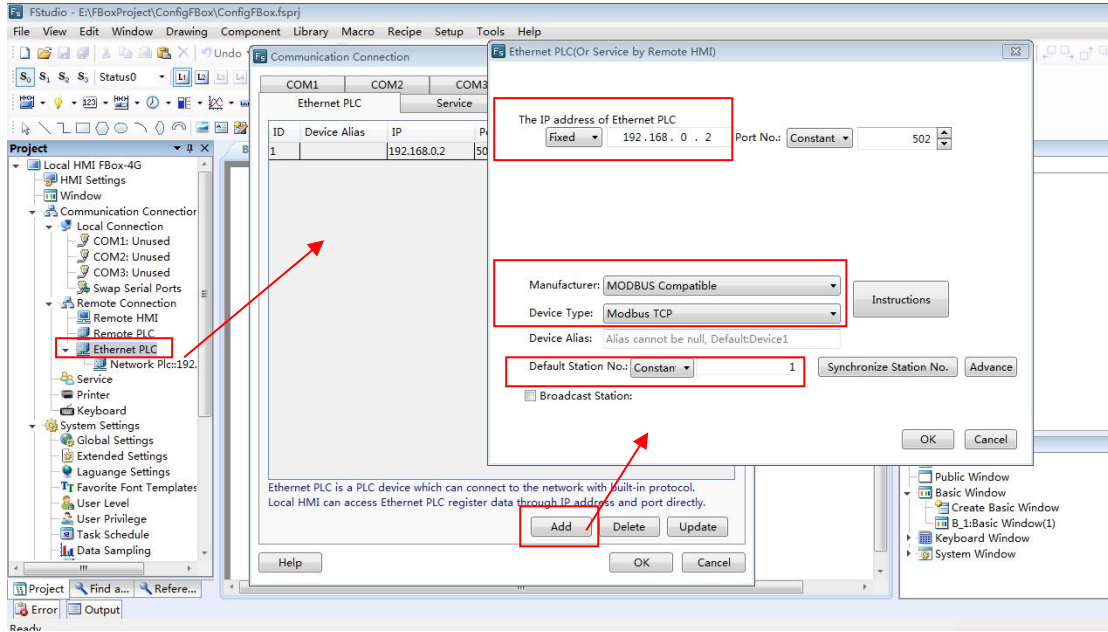

Fig. 4.4-3 Ethernet Connection configuration of PLC and FBox
- (1) Create or open an FBox project by using FStudio software. Double click the "Ethernet PLC" item which is under the "Remote Connection" folder in the project tree. The "Communication Connection" dialog will pop up and the "Ethernet PLC" subtab page will be displayed. After click the "Add" button in the "Ethernet PLC" subtab page, the "Ethernet PLC" dialog will pop up.
- (2) Set the communication parameters in the "Communication Connection" dialog. First, set the IP address of Ethernet PLC. Note that the IP address of the Ethernet PLC needs to keep in the same segment as the FBox (see: Detailed Manual of FBox/Network configuration). For example, the FBox IP address is 192.168.0.1 PLC, so the IP address of the Ethernet PLC can be 192.168.0.2. Then set the PLC driver in the "Manufacturer" list and the "Device Type" list and set the PLC station number in the "Default Station No.", as shown in Fig. 4.4-3.
- (3) After the above settings are completed, the project can be downloaded to the FBox device via a USB cable.